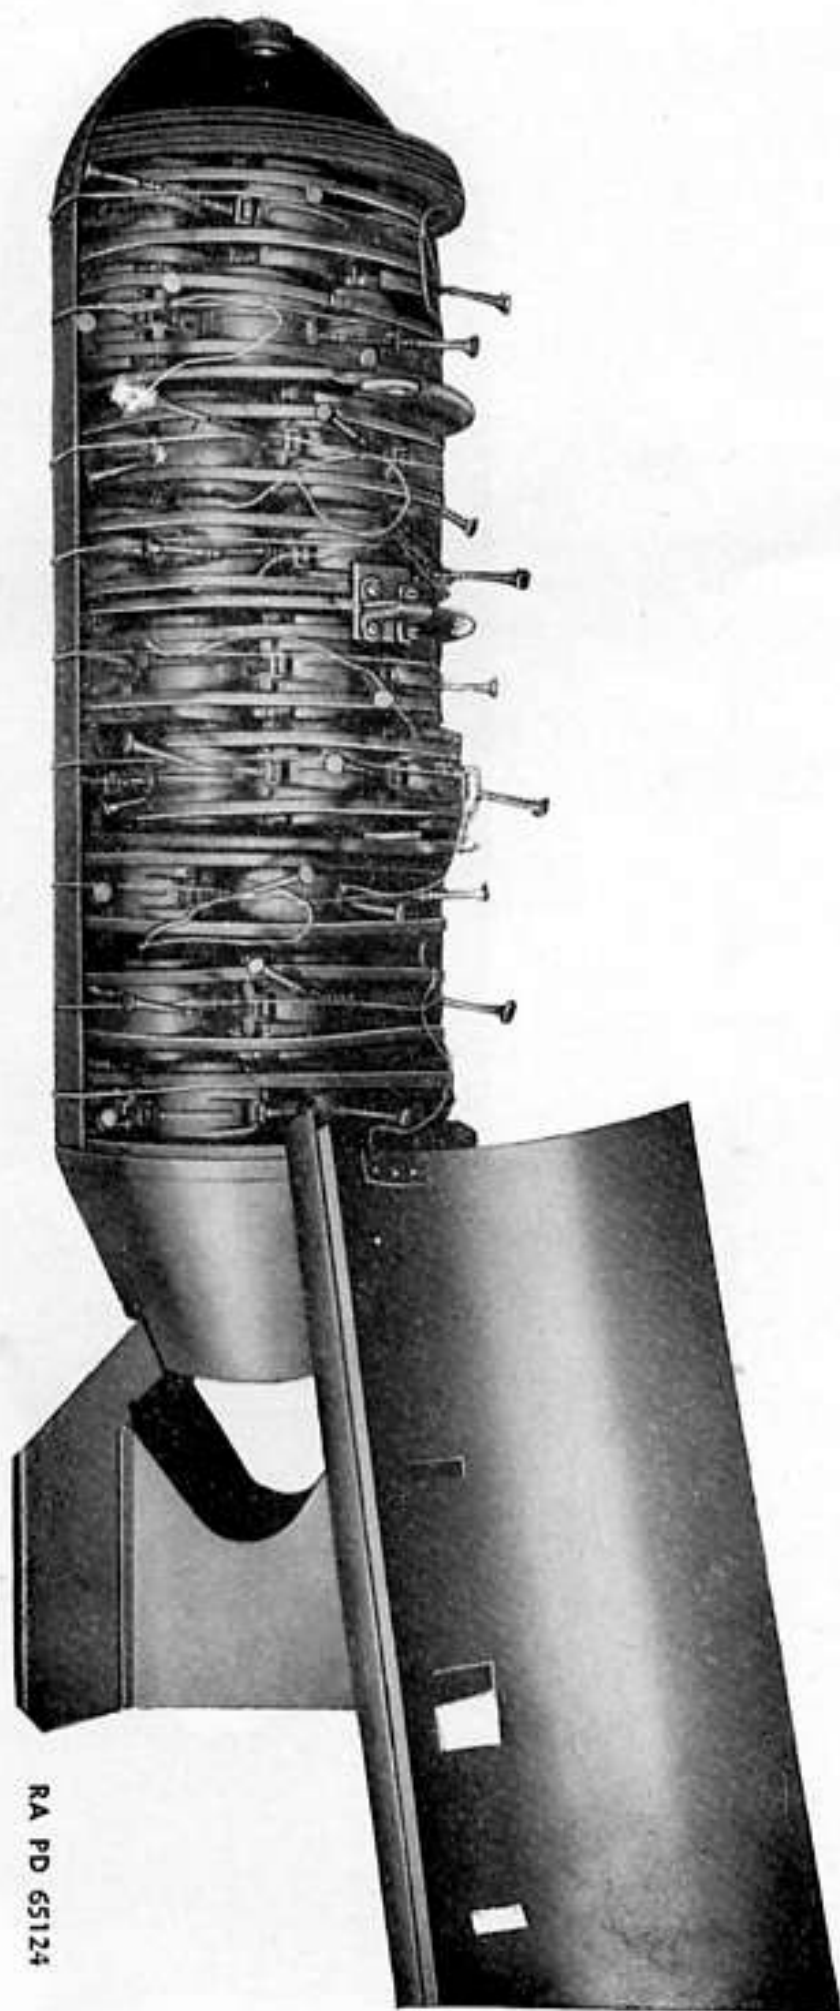

Figure 136. CLUSTER, fragmentation bomb, M29, open.
(1) Adapter, cluster, M16. This is a bomb-shaped, metal adapter with hinged top cover and with partitions inside the body for inserting wafers of M83 bombs. (See fig. 136.)
(b) Lift wafers by cable assemblies (pigtails) and place four wafers in two center bays of the bottom half of the adapter. (See fig. 136.)